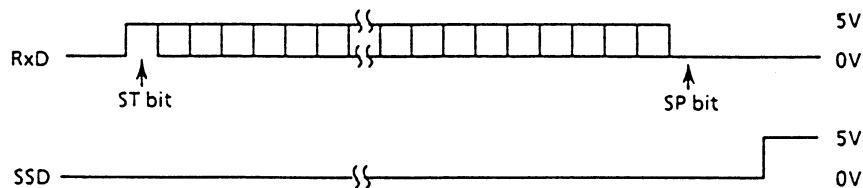

Figure E-7
• Yes Is the RxD of 01C as specified in Figure E-7?
② In receiving by serial interface, printing data is omitted or printing operation is not performed.
• Are RxD and SSD of 01C as specified in Figure E-7?